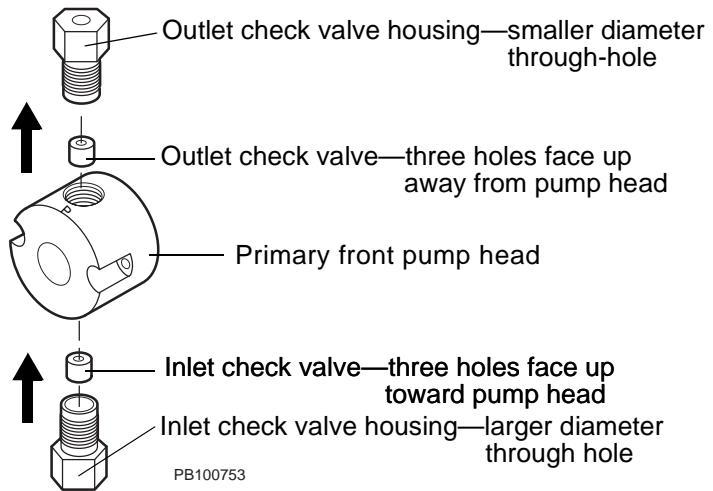

Figure 9-17 Re-assembling Check Valves
1. Re-assemble the check valves and housings as shown in Figure 9-17.
NOTE: The inlet and outlet check valves are interchangeable. However, make sure the three-hole end of each check valve faces up (Figure 9-17).